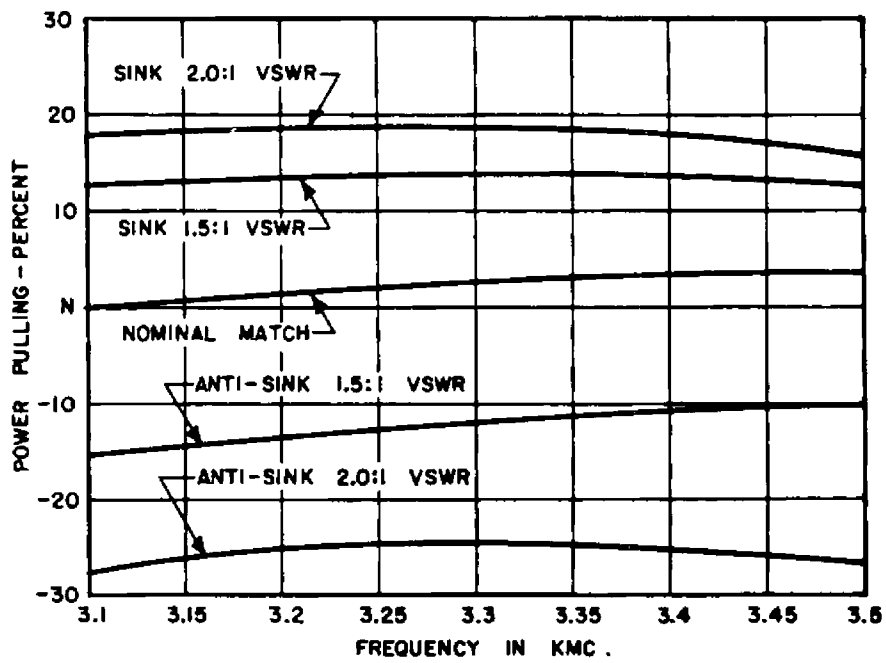

FIG. 6
- Figure 6 This is a plot of percent of power output change, from matched load conditions, one can obtain by varying the phase of a 1.5 and a 2.0 VSWR from sink to anti-sink. The nominal match curve is obtained relative to the frequency tuning band by equating the output at each frequency point against the power output at 3100 mc. Therefore, the change due to load mismatch and phase is that difference between the nominal line and the appropriate sink or anti-sink line at any associated frequency point.